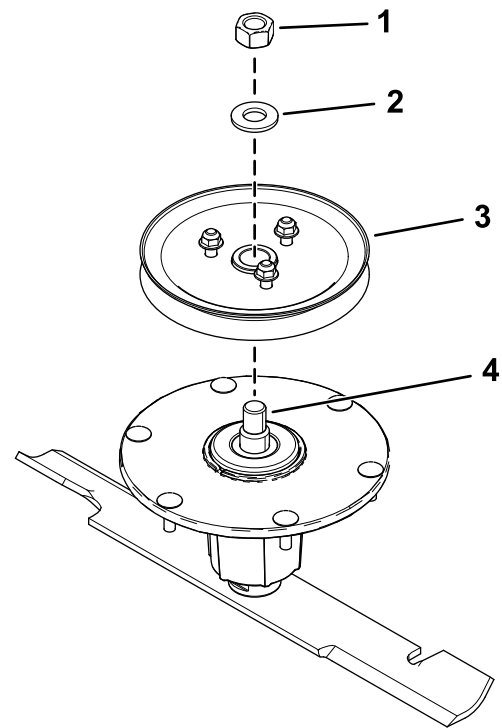

Figure 9
5. Install the sheave assembly to the spindle using the washer and top nut (Figure 9).